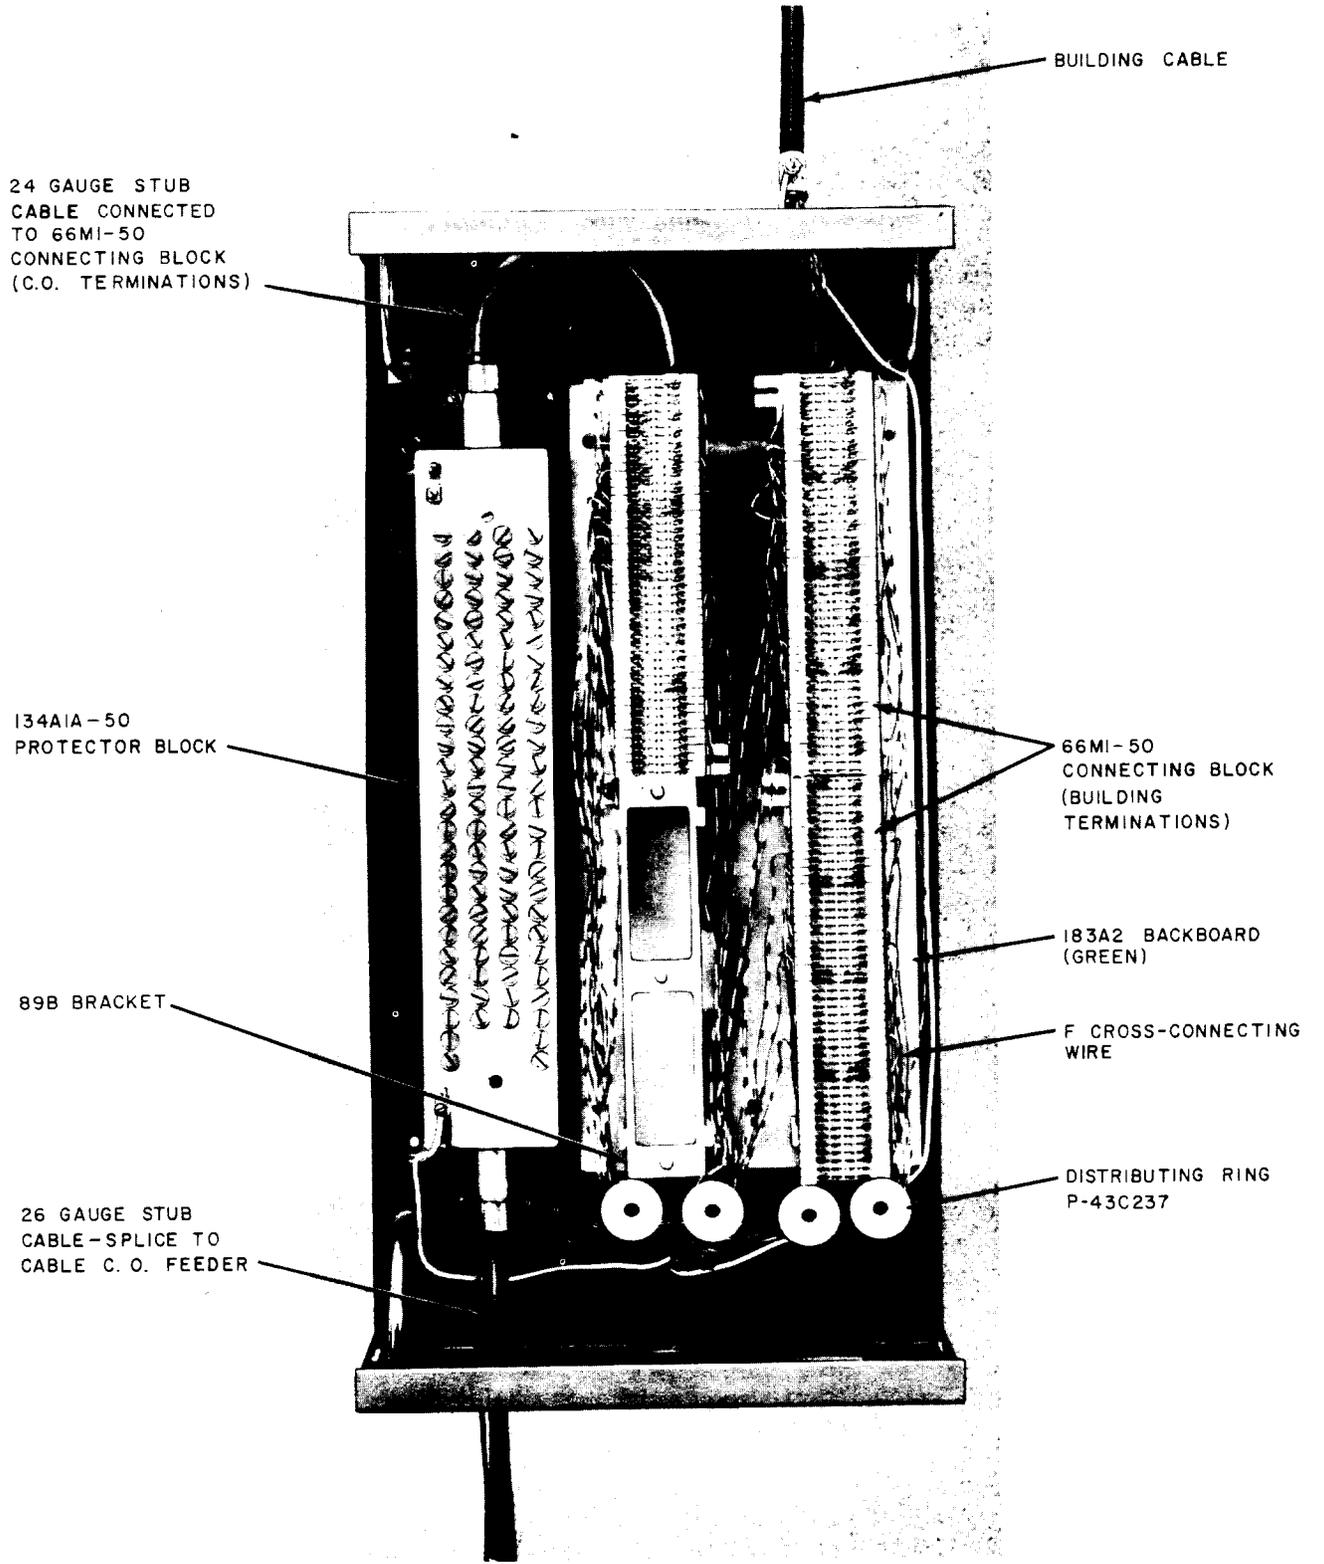

Fig. 2—50 Pair Protected Terminal
2.01 Normally the *green* backboard designates feeder cable termination and the *blue* backboard designates building cable terminations, however in a small terminal such as illustrated in Fig. 2 both the entrance cable and building cable are terminated on 66M1-50 connecting blocks mounted on a *green* backboard. Designation strips identify the entrance cable and building cable, respectively.
2.04 A protected main terminal in a cable terminal section is illustrated in Fig. 2. A 134-type protector is placed between the 66M1-50 Connecting Block and the C.O. feeder cable. This allows the cross-connections to be run in the same manner regardless of whether or not the building is served